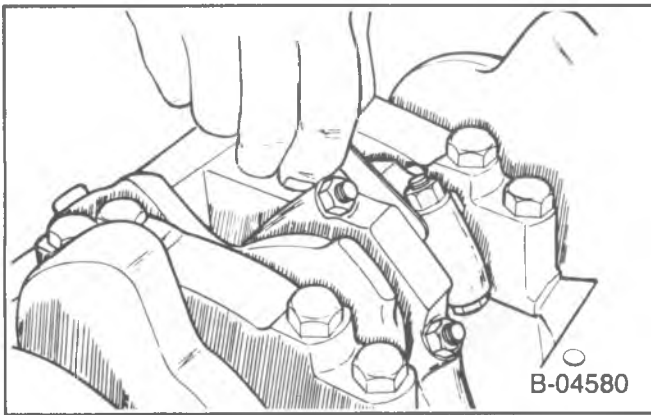

Figure 30—Checking Connecting Rod Side Clearance
- Connecting rod side clearance. Use a feeler gage between the connecting rod and crankshaft (figure 30). The correct clearance is 0.17–0.63 mm.